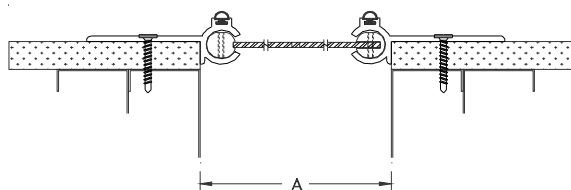

Figure 7
**STEP 10.** Insert the other center bar sphere into the opposite base member's track (see Figure 7).